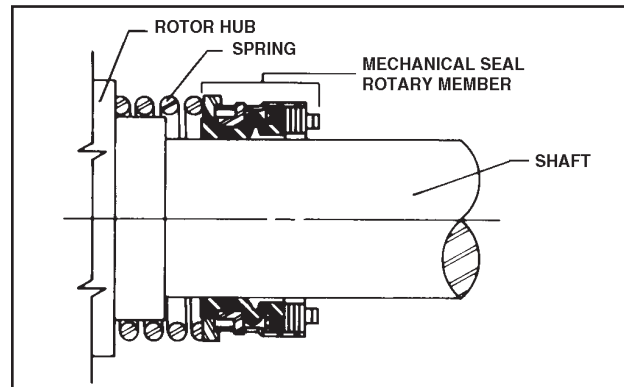

Figure 31
5. Place seal spring on shaft against rotor hub. Refer to Figure 31.